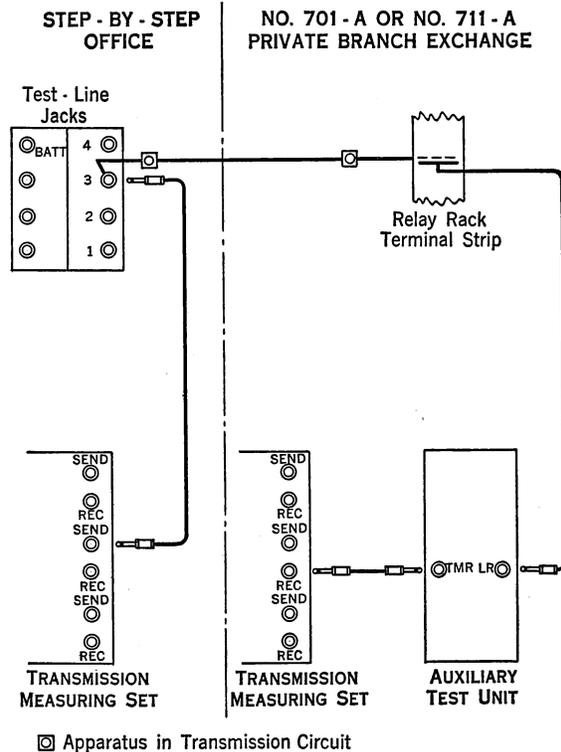

Figure 4
- 2.53 Figure 4 shows schematically the connections for the test.